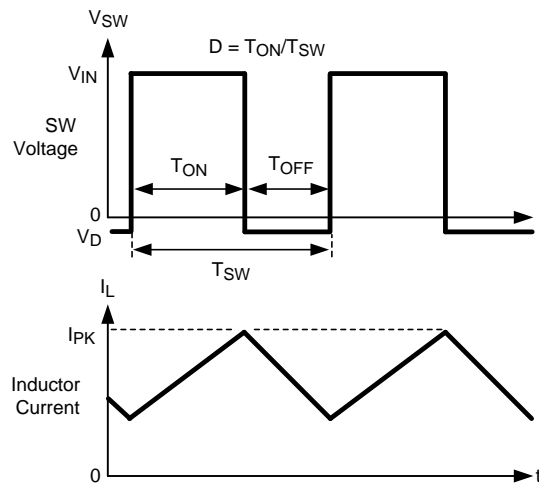

Figure 7. LM2734Z Waveforms of SW Pin Voltage and Inductor Current
The following operating description of the LM2734Z refers to the Functional Block Diagram and to the waveforms in Figure 7. The LM2734Z supplies a regulated output voltage by switching the internal NMOS control switch at constant frequency and variable duty cycle. A switching cycle begins at the falling edge of the reset pulse generated by the internal oscillator. When this pulse goes low, the output control logic turns on the internal NMOS control switch. During this ON-time, the SW pin voltage (V_{SW}) swings up to approximately V_{IN} , and the inductor current (I_L) increases with a linear slope. I_L is measured by the current-sense amplifier, which generates an output proportional to the switch current. The sense signal is summed with the corrective ramp of the
In Functional Block Diagram, capacitor C_{BOOST} and diode D2 supply the gate-drive current for the NMOS switch. Capacitor C_{BOOST} is charged through diode D2 by V_{IN} . During a normal switching cycle, when the internal NMOS control switch is off (T_{OFF}) (refer to Figure 7), V_{BOOST} equals V_{IN} minus the forward voltage of D2 (V_{FD2}), during which the current in the inductor (L) forward biases the Schottky diode D1 (V_{FD1}). Therefore the voltage stored across C_{BOOST} is calculated using Equation 1.